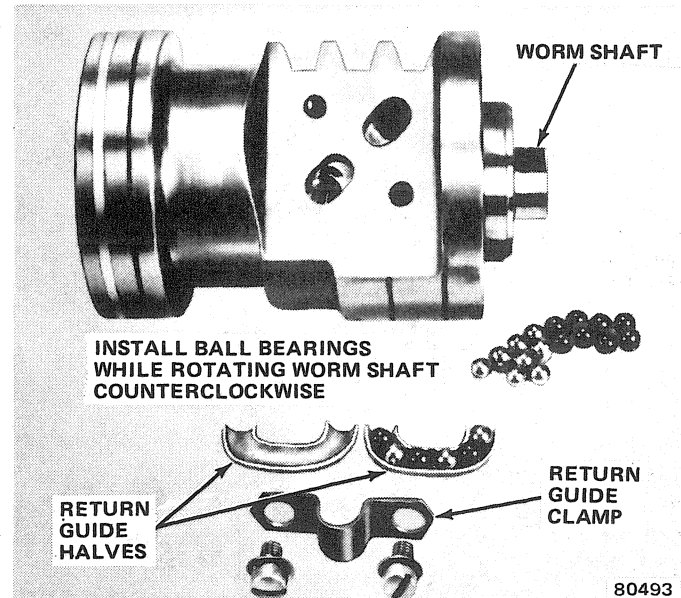

Fig. 2L-35 Rack Piston Ball Bearing Installation
(7) Fill one ball return guide half with petroleum jelly and install six remaining ball bearings in guide (fig. 2L-35). Be sure bearings in guide are in sequence with bearings in rack piston and that total of 24 ball bearings are installed (18 in rack piston and 6 in return guide).
(8) Assemble both ball return guide halves and insert guides in rack piston. Guides should fit loosely.
(9) Position ball return guide clamp over guides and install clamp attaching bolts and washers. Tighten bolts to 10 foot-pounds (14 N•m) torque.
(10) Insert Arbor Tool J-21552 into rack piston until it contacts wormshaft.
(11) Apply steady pressure against arbor tool to maintain contact with wormshaft and back wormshaft out of rack piston.